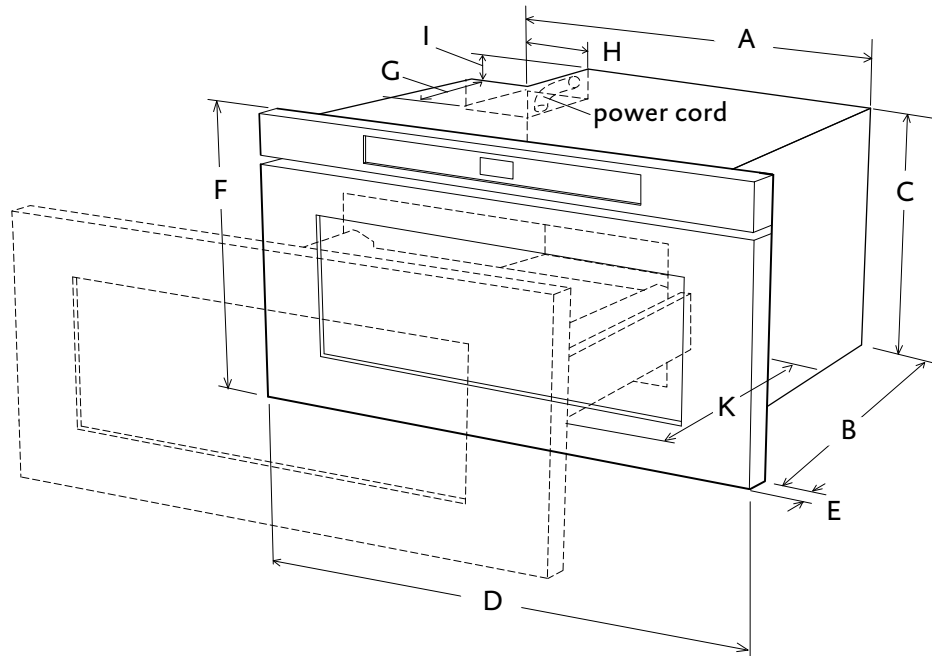
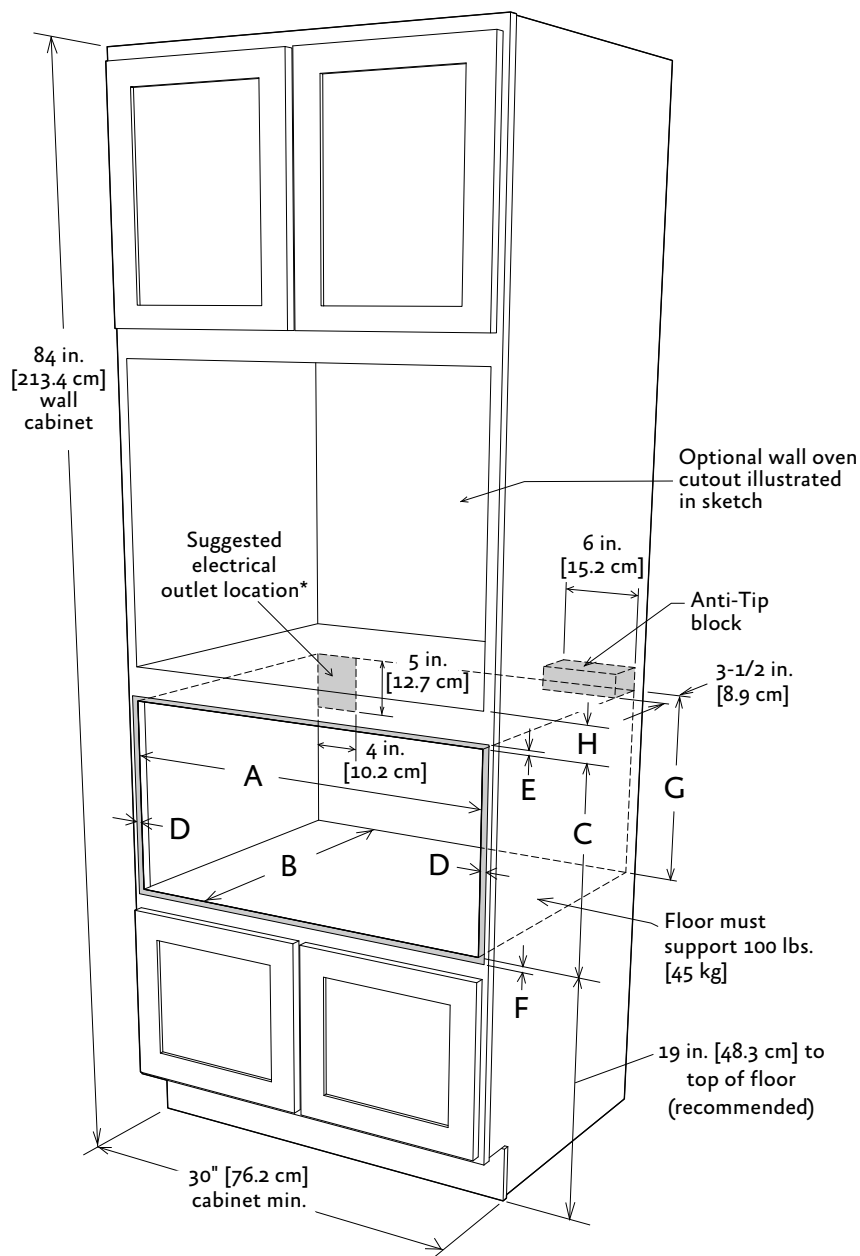
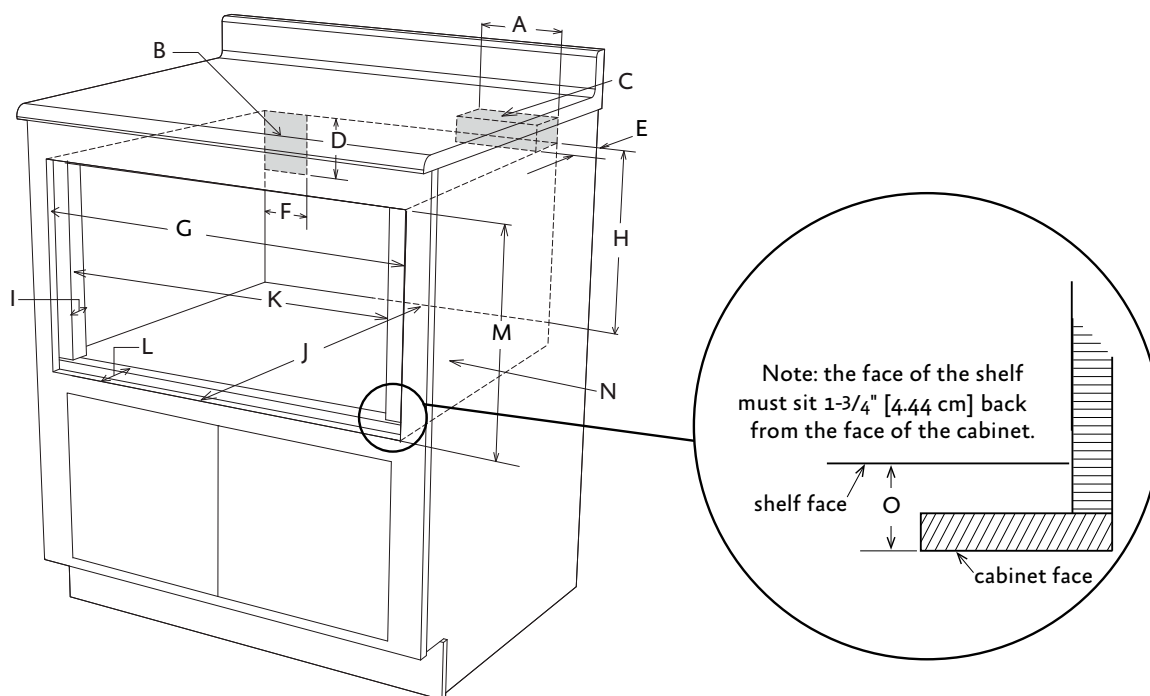

Figure 1. Microwave dimensions
Figure 2. Standard mounting under oven
Figure 4. Mounting flush under counter
▲WARNING Do not install drawer in any combustible cabinetry unless it meets the stated clearances and dimensions on the following pages. See Figure 1, 2 and 3.
- Figure 1 shows dimensions of the unit. Figures 2 - 3 provide minimum clearance for standard (non-flush) installation. Figures 4 - 9 show clearances and additional information for flush installation. Suggested electrical outlet location is shown in figures 2 - 6. ¹
See Figures 1 - 6 for required clearances and dimensions when planning the drawer's location.